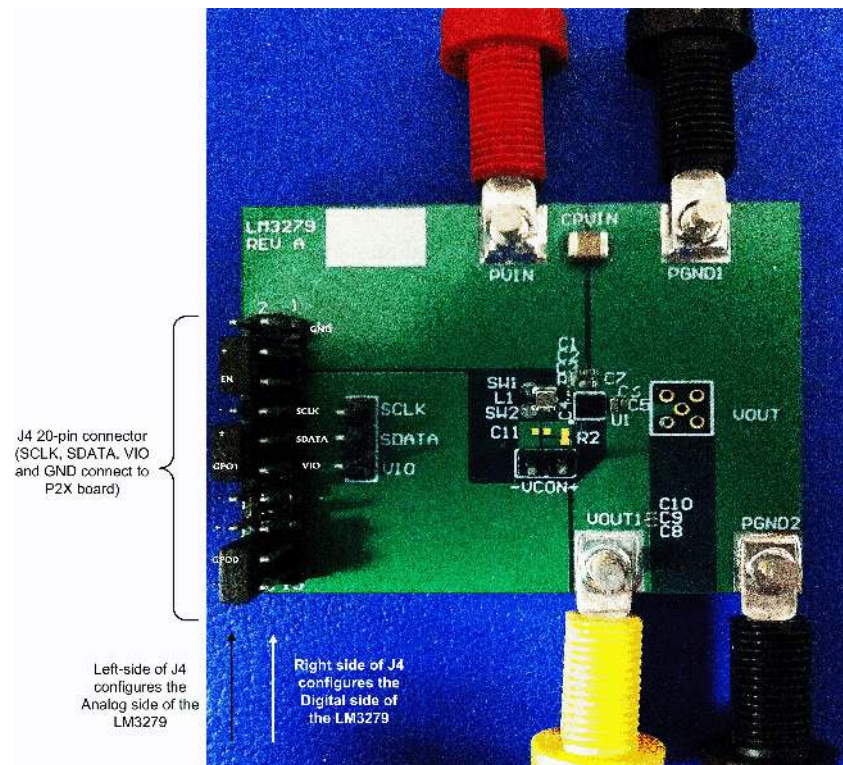
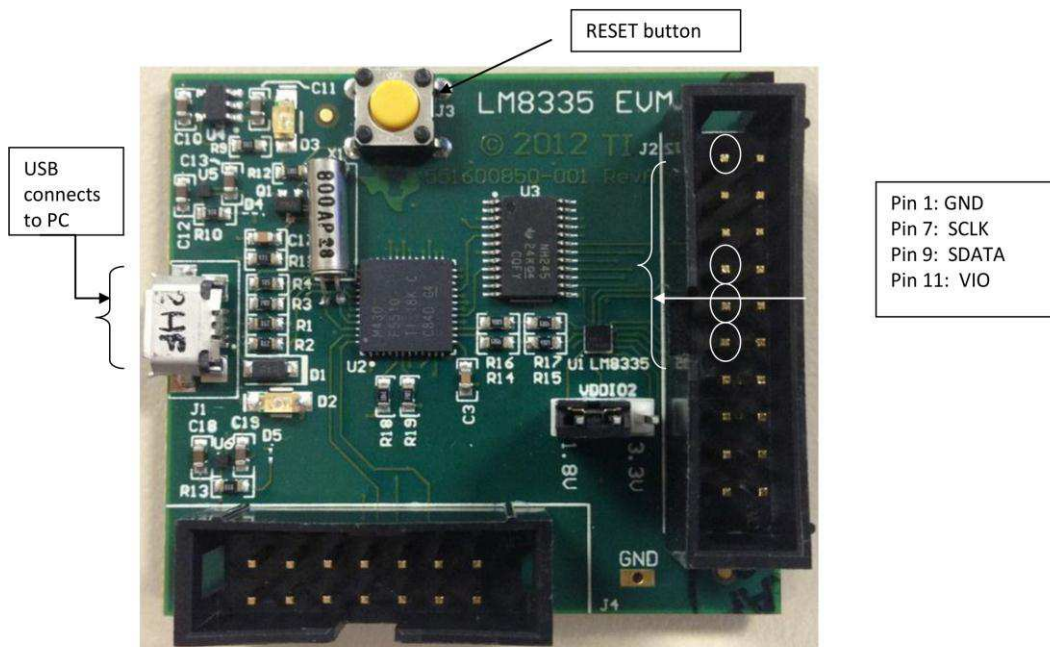

Figure 3. Photo of LM3279 Evaluation Board
Figure 4. LM8335 RFFE Interface Evaluation Module
1. For Digital Control: Place the EN pin of the LM3279 “Low” from the 20 pin connector “J4”, and leave the GPO0(R1)/1(R0) pins floating. Connect and align the SDATA, SCLK, VIO, and GND pins together from the LM8335 board (refer to Figure 3 and Figure 4).